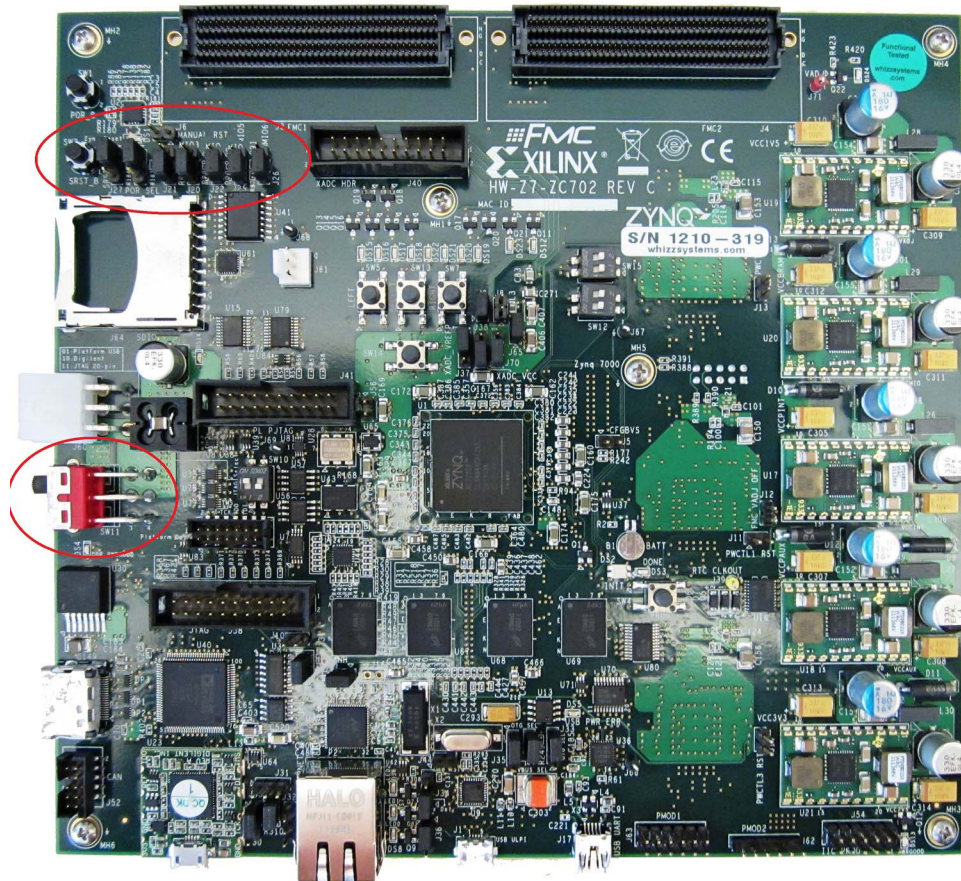

Figure 2-6: ZC702 Board Power Switch
5. Power on the ZC702 board using the switch indicated in Figure 2-6.